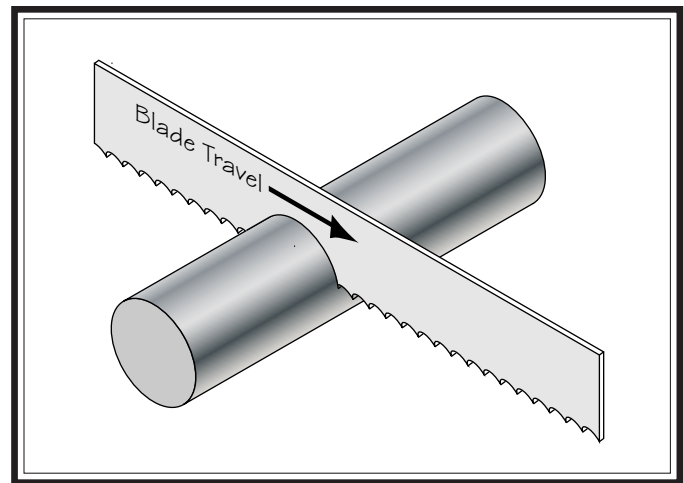

Figure 21. Blade cutting direction.
**Note:** It is sometimes possible to flip the blade inside out, in which case the blade will be installed in the wrong direction. Check to make sure the blade teeth are facing toward the workpiece, as shown in **Figure 21**, after installing it on the bandsaw. Some blades will have a directional arrow you can use as a guide.